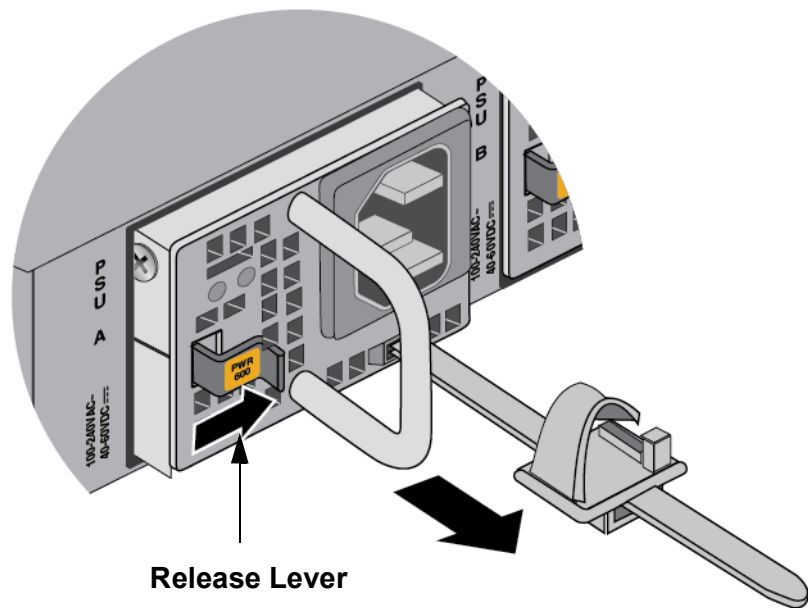

Figure 146. Removing the Power Supply
4. Press the release lever to the right and pull on the handle to release the power supply from the internal connector in the switch. Refer to Figure 146.